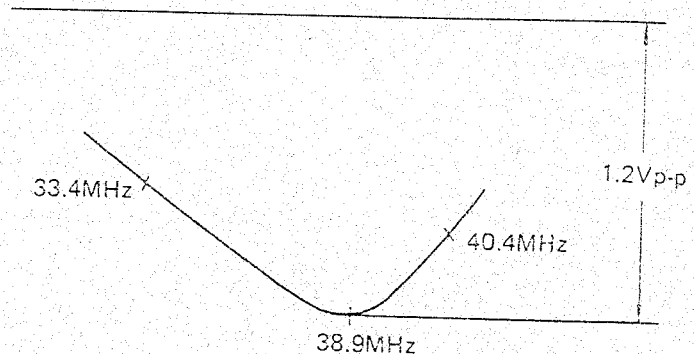

Fig. 2
- (1) Connect the sweep generator output through PAD-2 (B) to TP202.
- (2) Rotate the AGC PAD to +B side.
- (3) Adjust the vertical sensitivity of oscilloscope to 1.2 Vp-p.
- (4) Adjust the core of T206 to obtain display shown in Fig. 2.